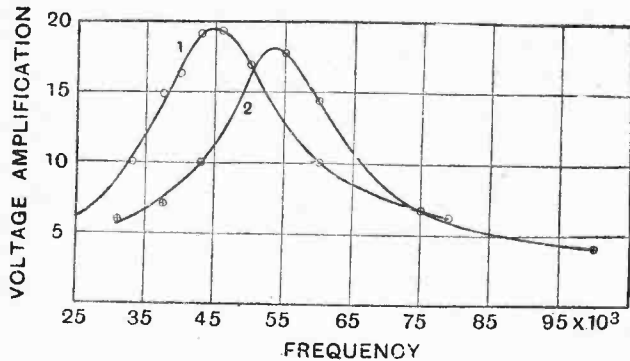

Fig. 12.—Amplification curves with D.E.8 H.F. for No. 1 transformer (2) polarised by H.T. and (1) after A.C. treatment at 300 cycles.
(4) *Condenser across Primary.*—The effect of a condenser in parallel with the primary winding is to increase the optimum wavelength and to reduce the flatness of the curve. If the condenser is not too large, the effect is not serious. Curves have not been given for this case, since they would not serve any particularly useful purpose. A somewhat analagous case is depicted in Fig. 12, where the same transformer is used with two different